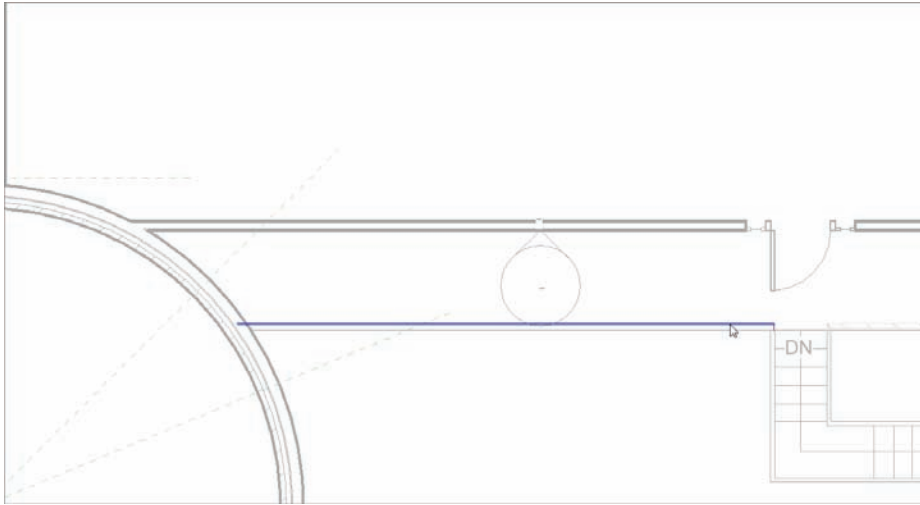

FIGURE 10.75 Adding the railing. This process is becoming old hat!
4. Sketch a railing that is 4" (100mm) in from the face of the landing, as shown in Figure 10.75.
5. Make sure you have a "leg" tied into the stair railing, as shown in Figure 10.75.